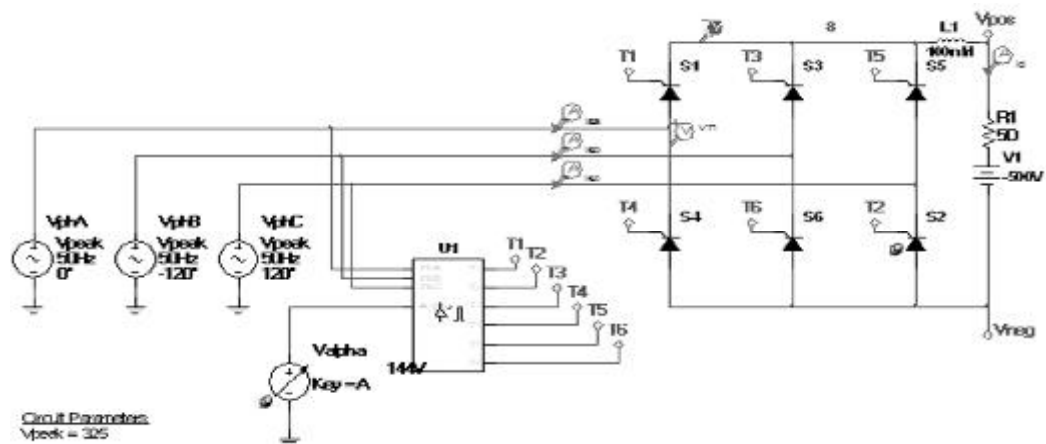

Figure 7
- h) Use the setup in Figure 7 to study operation at $\alpha=90$ deg and $\alpha=144$ deg